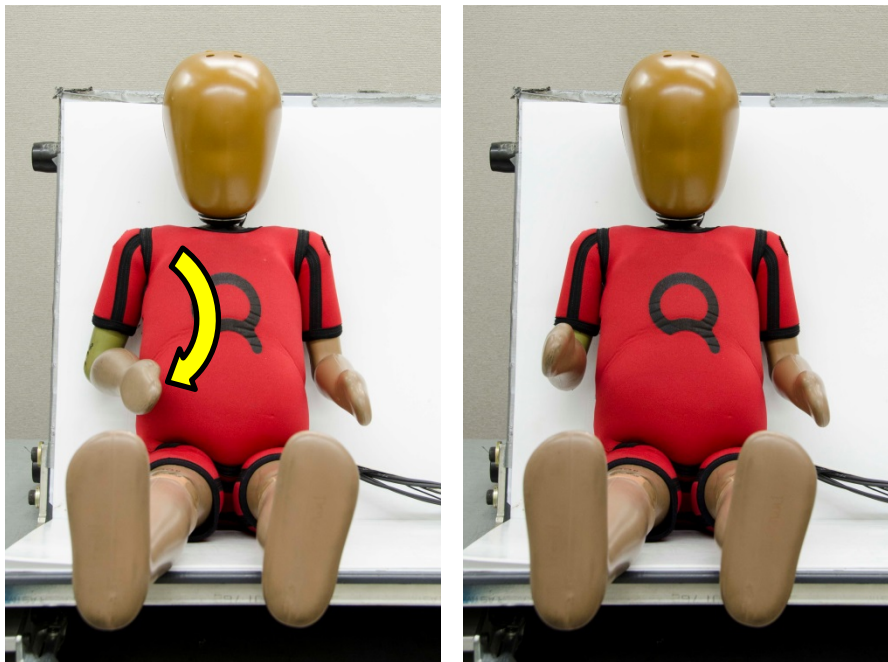

Figure 96. Setting the arm parallel to sagittal plane for thorax with armtests
- Assure that the lower arm is parallel to the sagittal plane (Figure 96).
- To ensure that the dummy is seated upright (not leaning laterally), using a laser device positioned in front of the dummy, align the laser between the feet and along the dummy's midsagittal plane (Figure 96). Align the laser between the feet and along the centerline of the Q3s positioning tool. Placing a measuring tape between the feet to ensure the dummy is upright may be useful. As an alternative, if the optional tilt sensor device is installed in the spinebox, ensure that the lateral positioning of the dummy is $0 \pm 1^\circ$. Adjust the dummy as necessary to achieve these results.
- Recheck that the dummy has maintained an upright position using the front laser or the optional tilt sensor device (Figure 96). The front laser may need to be repositioned along the midsagittal plane if the bench was moved in the previous step.